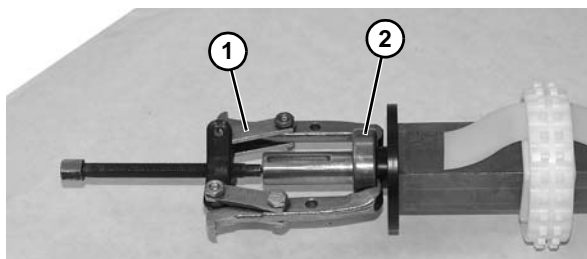

Figure 55
12. Using puller (**Figure 55, item 1**), as shown, remove bearing (**Figure 55, item 2**) from shaft assembly. Repeat on opposite side, if needed.